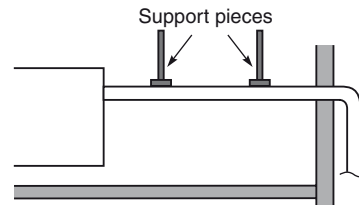

Fig.3-13
- Do not apply force to the piping on the unit side when connecting the drain pipe. The pipe should not be allowed to hang unsupported from its connection to the unit. Fasten the pipe to a wall, frame, or other support as close to the unit as possible. (Fig. 3-13)